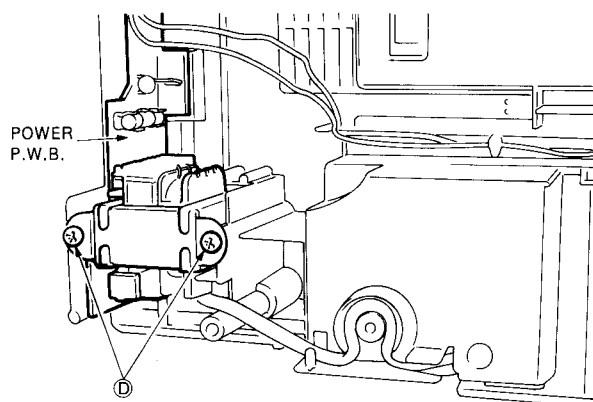

Fig. 5
5. Removing Power P.W.B. (Fig. 5)